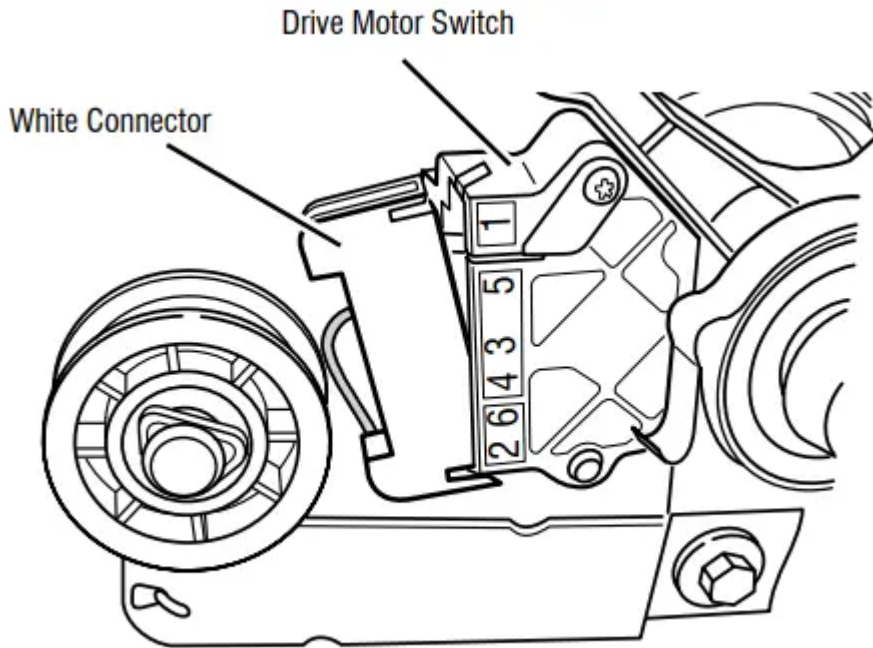

Figure 9 - Remove white connector
8. Remove the white connector from the drive motor switch. See figure 9.